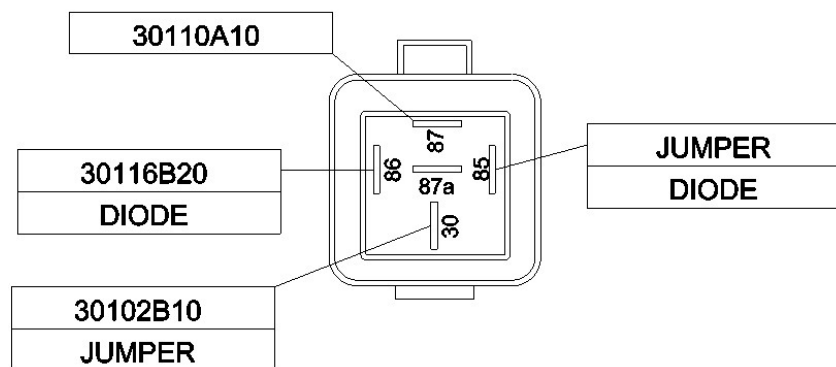

Figure 30: Relay Connections
12.2.4.3 Connect wires 30110A10, 30102B10, 30116B20/JUMPER and JUMPER to the Relay according to Figure 30.